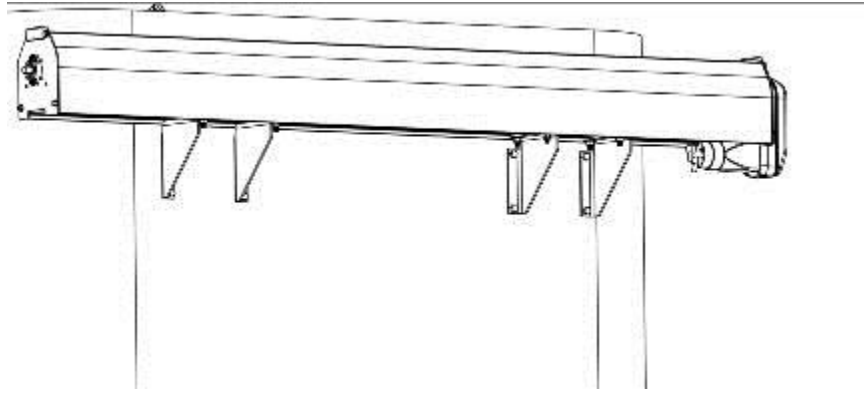

Fig. 6
- 6) Set the housing on top of the gussets inserting the pre-installed T-bolts in the holes in the top of the gussets and bolt in place (see Fig. 6.)